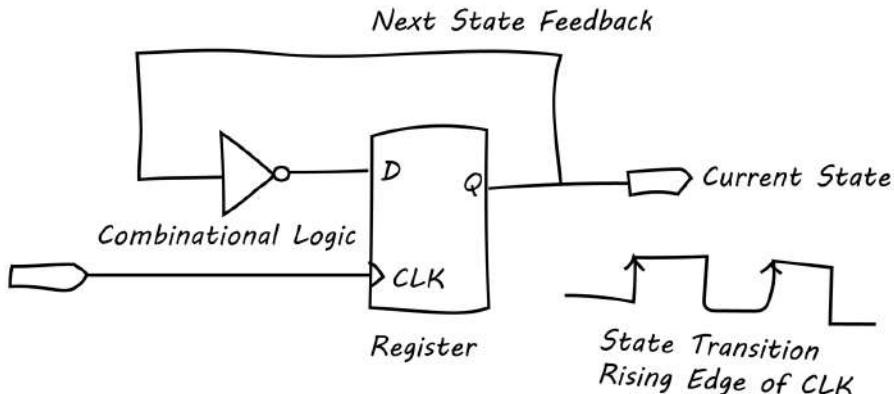

Figure 2-37 Simple RTL design abstraction model
You will notice two blocks here: the one on the right represents our 32 registers (`reg[31:0]blinkcount`), and the one on the left is what we call the combinational logic block. These two blocks represent the current state (right block) and next state (left block) logic sequences. Notice that the clock only goes to the right block. That is because it is registering (FF) the next state, which becomes the current state on every rising edge of the clock. Remember our always `@(posedge clk_in)` statement? This is how the synthesizer interpreted this and implemented it. Notice that the output of the `fdr` block (right) is fed back to the input of the left block. This is the next state generation logic. Remember when we said that `blinkcount <= blinkcount + 1`? Well, the synthesizer is doing just that in this block: it's taking the current count, which is the feedback from the registers (current state or current count), adding one to it in the left block and presenting that as the data going into the register block (right) to be the clock-in on the next rising edge of the clock (i.e., this becomes the new current count). This is a classic RTL model of how most synchronous HDL logic designs get coded and synthesized, represented graphically in Figure 2-37. If you can remember this simple RTL model, you will be able to understand a lot of HDL code.